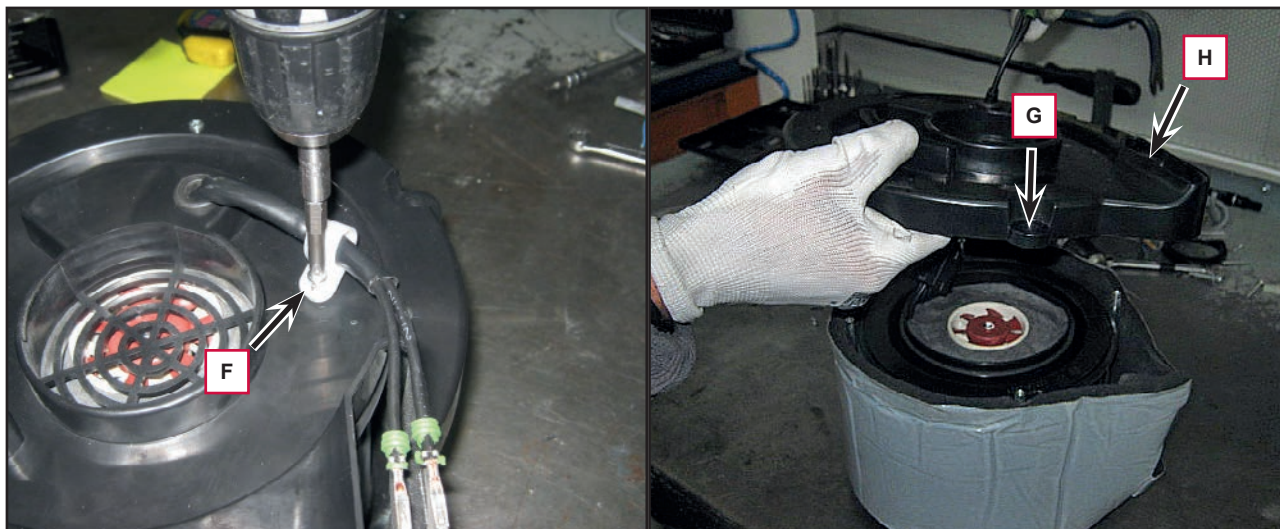

Figure 8
6. Remove the clamp (F) (Figure 8).
7. Remove the 4 screws (G) and remove the cover (H).